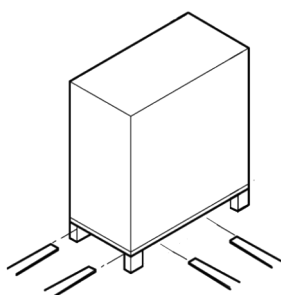

Fig. 1: Transporting with an industrial vehicle
1. **Fig. 1:** Cut and remove the plastic straps ①.
2. Remove the wooden cover ② from the packaging.